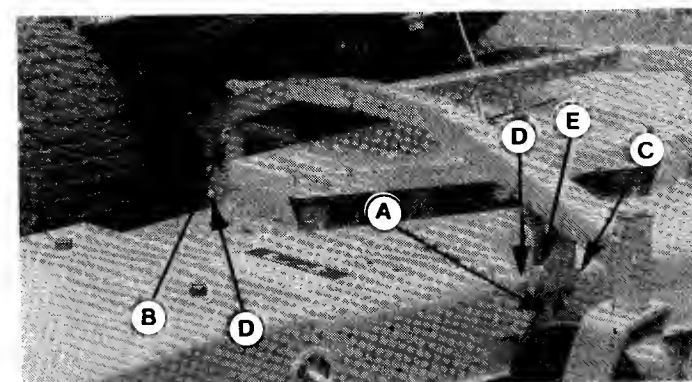

Figure 18. Mower Leveling
2. Make sure that the mower does not rock from side-to-side. All four leveling bolts (A, figure 18) should bear weight from spacers (E, figure 18).
3. Turn the blades side-to-side, and measure from outside tips of blade to ground. If there is more than 1/8 inch difference, raise or lower one side of the mower. To do this, turn in, or out, the leveling bolt at front (A, figure 18) and the leveling bolt at rear bracket (B). Be sure to turn both bolts the same number of turns. Recheck the measurement, then go to step 3 to check front-to-back leveling.
To change the cutting height of the mower, remove four clips (C, figure 18) and move pins (D) to a different hole. The pins must be in corresponding holes at all four locations so the cut will be even.